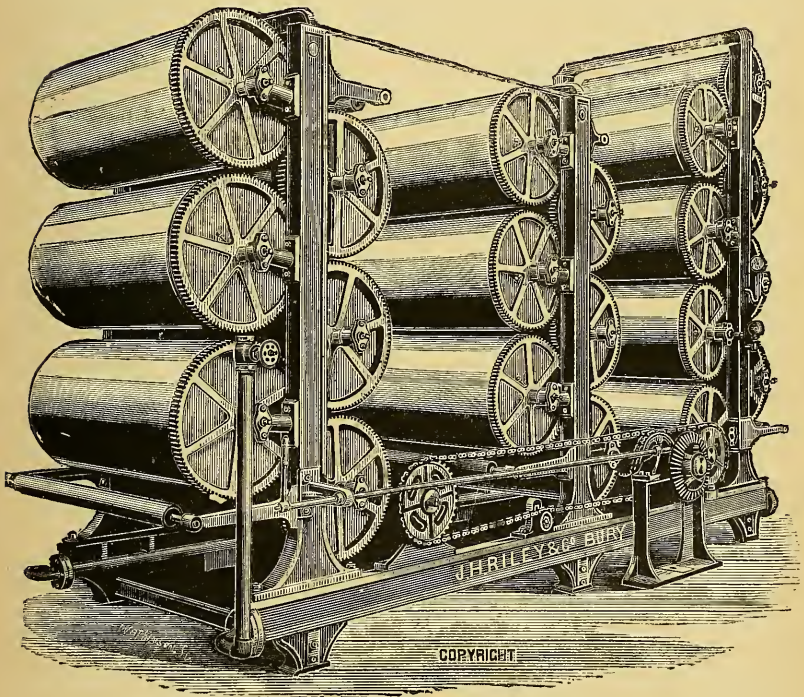

Fig. 40.—Vertical Drying Machine.
**The Final Operations in Bleaching.**—The final operations are washing and drying, this last being performed by passing the pieces, opened out to their full extent, over and under a series of hollow iron or copper cylinders, heated by steam, the greater portion of the water being previously removed by squeezers. A vertical drying machine is illustrated in Fig. 40. Cotton yarns are bleached by the same process as cloth—the skeins being first boiled in water, then in a weak solution of bleaching powder, then again in weak acid, and finally washed and dried.
The first thing that attracts attention to one of the most improved sizing machines (see Fig. 40) is the unusual height of a large cylinder; but this constitutes the key to the great departure from more common arrangements. The size box is of the ordinary construction, but fitted up with two strong seamless copper rollers, instead of the usual one of copper and one of wood. If required, a separate size-boiling compartment is provided, with a self-feeding apparatus for the size, and in every case the rollers work outside the box in broad brass bearings. The steam-pipes for boiling, instead of proceeding from a single pipe at one end and branching into two forks, are separate, receiving steam—one from the right hand and the other from the left of the machine; this means that the boiling will be equal over the whole width of the material, instead of being, as usual, stronger on one side.